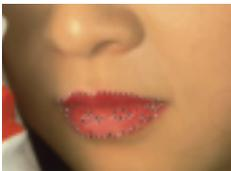

Figure 2
2. Our task is to mask the lips. Use the **Magic Wand Mask** tool. Set the **Colour Tolerance** to 3 in the Property Bar. Using the **Shift** key to get into the Additive mode, simply click on the lips until you get close to masking everything. Don't worry about getting all of it. **Figure 2** provides an example of 'good enough' to take you to the next step.